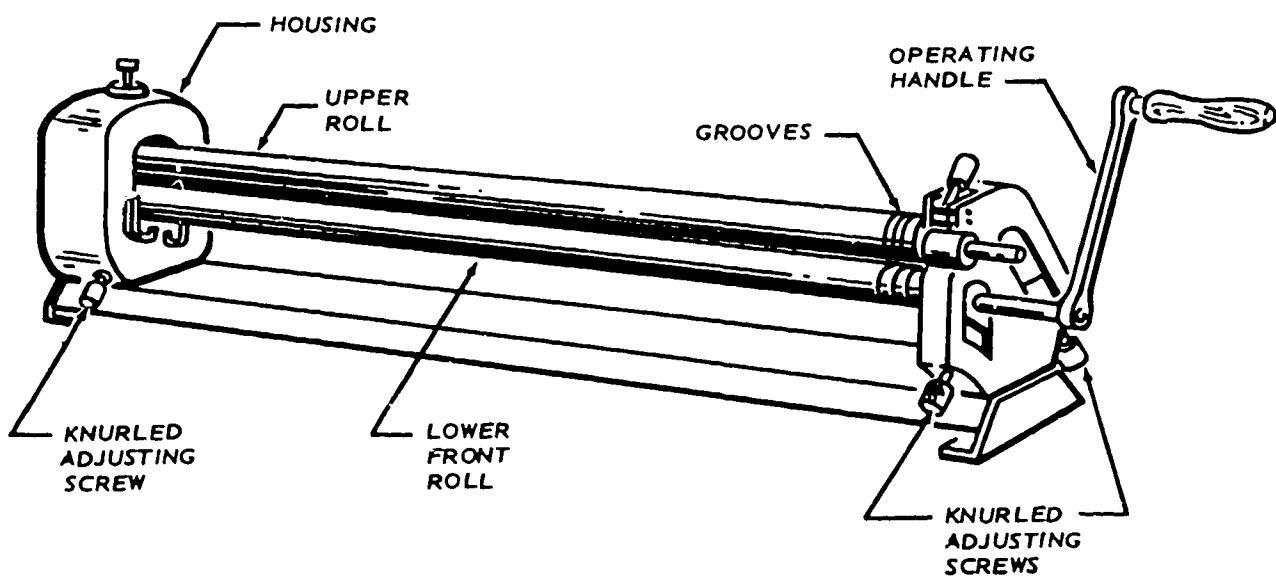

Figure 3-4. Hand-operated slip roll.
**Hand Operated Slip Roll Forming Machine.** The slip roll forming machine, illustrated in figure 3-4, is used to form sheets into cylinders of various diameters. The machine is simply constructed and consists of right- and left-end frames (housing) between which are mounted three solid steel rolls—two lower rolls and one upper roll. The two lower rolls are connected by gears operated by a handerank. The lower front roll can be adjusted to the thicknesses of the metal by means of two knurled adjusting screws (one at each end of the roll). Once the metal is started into the machine, it is gripped between the lower front roll and the upper roll and is carried to the lower rear roll which bends it around the upper roll, thus forming a cylinder. Turning the adjusting screws at each end of the lower rear roll to the right, produces a smaller radius. Turning the screws to the left, produces a larger radius.